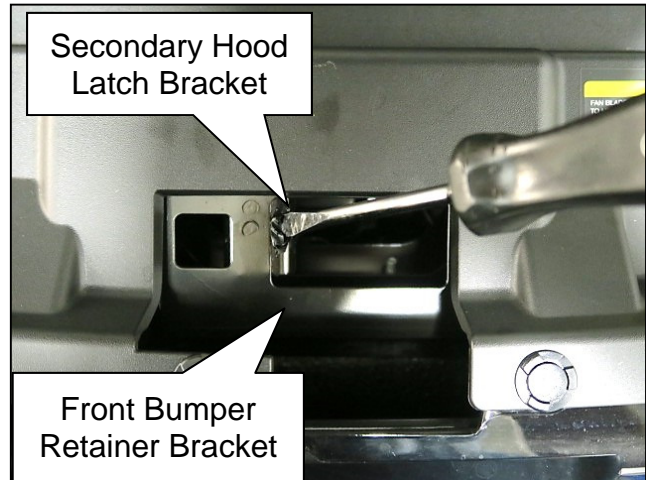

Figure 4
4. Place the tape covered flat-blade screwdriver onto the Secondary Hood Latch Bracket at a 45° angle, as shown in Figure 4.